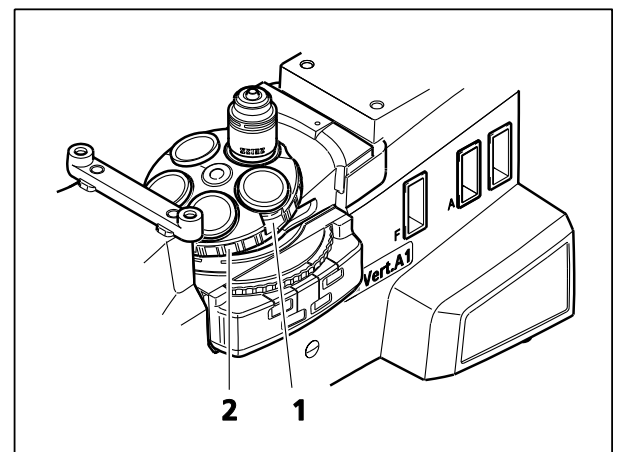

Fig. 2-17 Five-Position Objective Nosepiece
- You can change objectives quickly by rotating the objective nosepiece via the knurled ring (Fig. 2-17/2).
- Three of the objective nosepiece positions feature a slot into which a DIC slider can be inserted (Fig. 2-17/1).